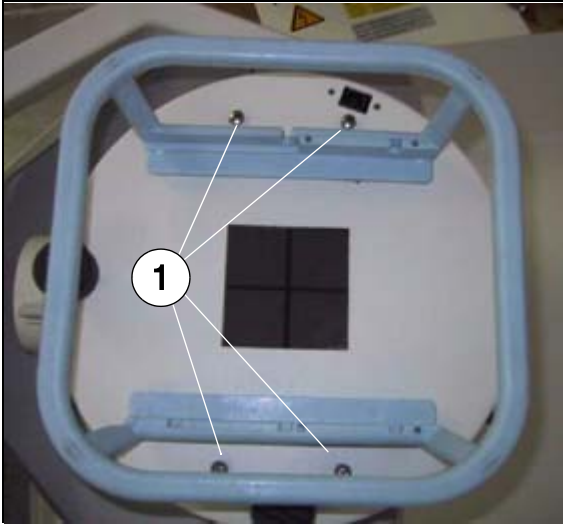

Fig. 20: Collimator cover
- Open the collimator cover (1/Fig. 20 / p. 54).